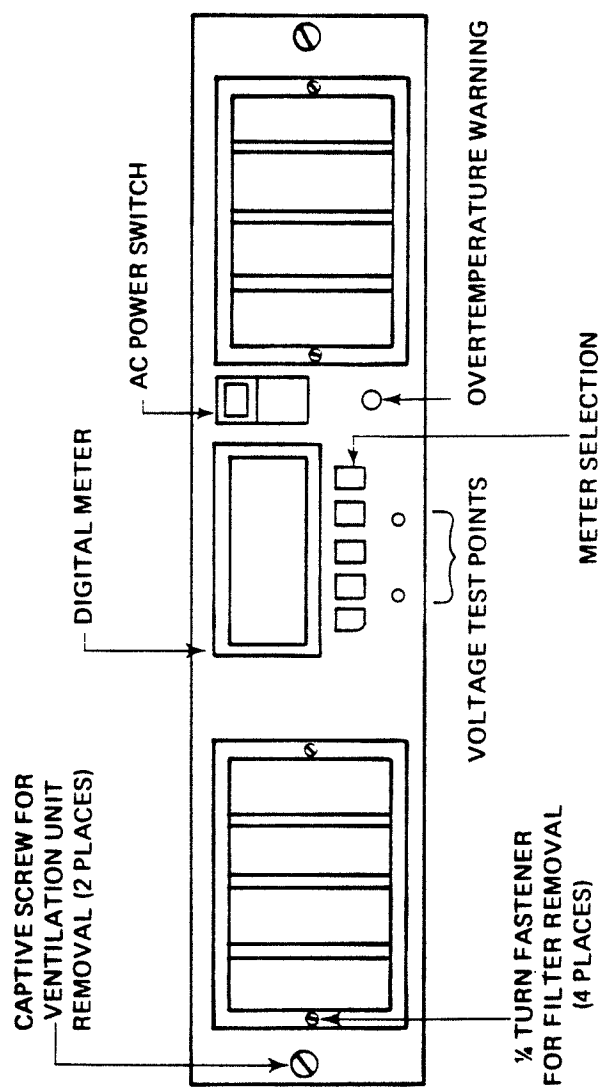

FIGURE 3 - VENTILATION UNIT FRONT PANEL
4. The voltages should be checked on the front-panel LCD meter as follows (Refer to Figure 3):